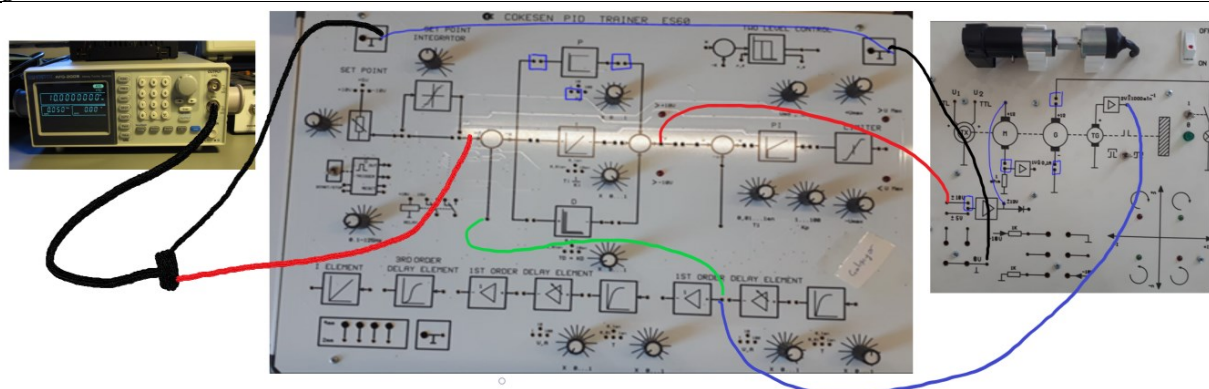

Figure 11: the connection between signal generator and control-board.
- 6) Using the signal-generator-probe set the connections between the signal generator and the control board as depicted in Figure 11.